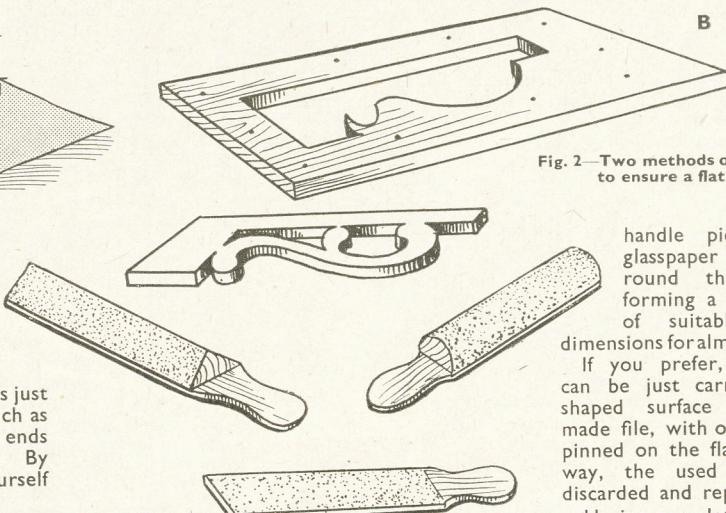
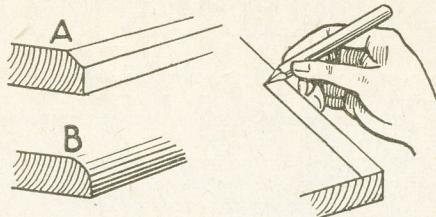

Fig. 2—Two methods of glasspapering to ensure a flat surface
Fig. 4—Pencil mark the edge before shaping
In undertaking small parts, their cleaning is sometimes difficult, and here are two suggestions which may help you out. Both are illustrated at Fig. 2 and almost explain themselves. Instead of using the glasspaper on the work in the ordinary way, reverse the process and rub the work on the glasspaper.
At (B) Fig. 2 you have the suggestion for a similar piece of work. This, as you see, is cut from the piece of wood to leave a solid framework, thus for cleaning the little piece of fretted work can be replaced in its original board and thus leave the whole flat surface suitable and simple for cleaning with glasspaper. The board can be pinned to the table for fixing if you wish.
A sheet can be laid flat as (A) Fig. 2, or lightly pinned to the bench with drawing pins, if it is likely to cockle. Then the small piece being cleaned is laid on the glasspaper, and with a circular motion is
see the result shown in (B) at Fig. 4.
A good plan—indeed, it is essential to get the right finish—is to mark your pencil line along the surface of the wood (see Fig. 4) to show the extent of your curve when the rounded portion is finished. The pencil point is drawn along with the finger pressed close to the edge, thus maintaining a straight line—providing the actual edge itself is straight. Then you can plane down some of the unwanted wood until you get a slope or chamfered edge, as you see at (A) Fig. 2.